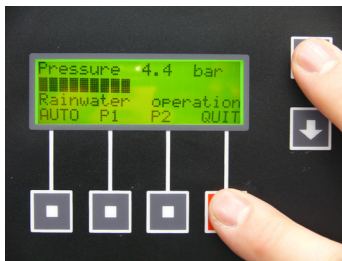

fig. 4
- Press simultaneously the button 4 under the display "Quit" and the upper "Arrow" button on the control unit, see figure 4